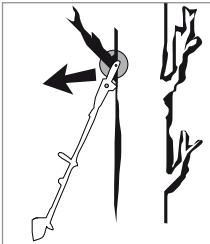

Fig. 2
- Kickbacks can occur if the tip of the blade 35 touches an object or if the wood bends and the saw chain 34 gets caught in the cut (see Fig. 2).